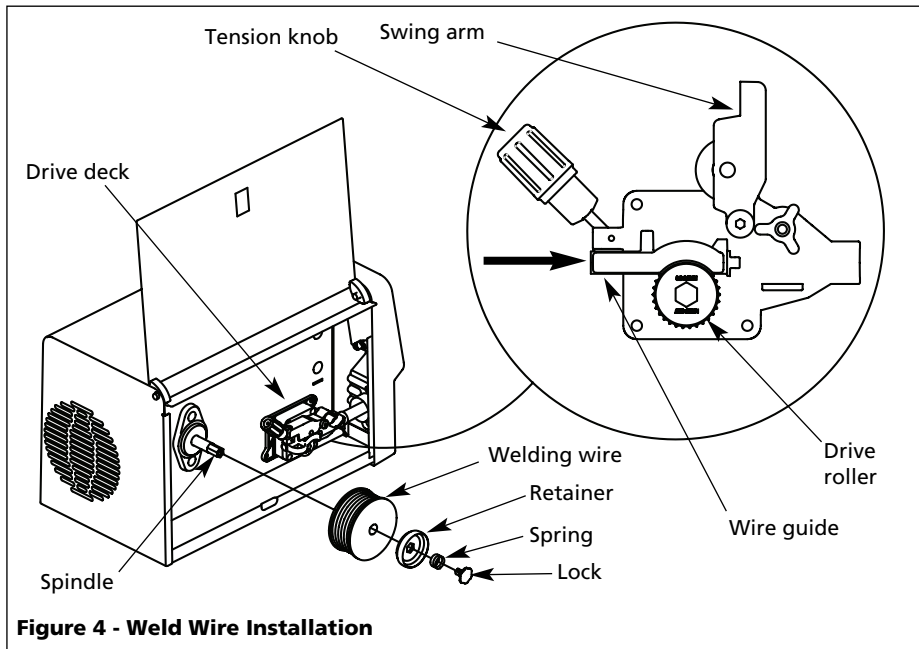

Figure 4 - Weld Wire Installation
- Diameter of welding wire matches groove in drive roller on wire feed mechanism (See Fig. 4).